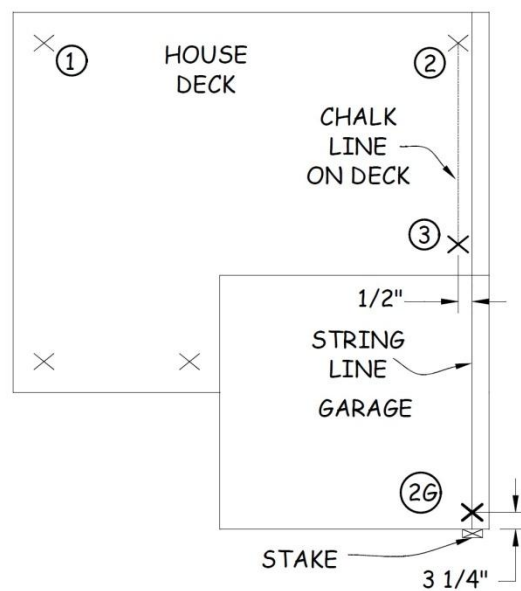

Figure 23-1. Garage Sill Plate Chalk Lines Prior to House Walls.
1. When the house exterior wall plate layout lines have been squared and snapped, refer to Figure 23-1. At points 2 and 3 on the house deck, measure $\frac{1}{2}$ " toward the edge of the deck and make marks. Tack 8d nails at the marks.